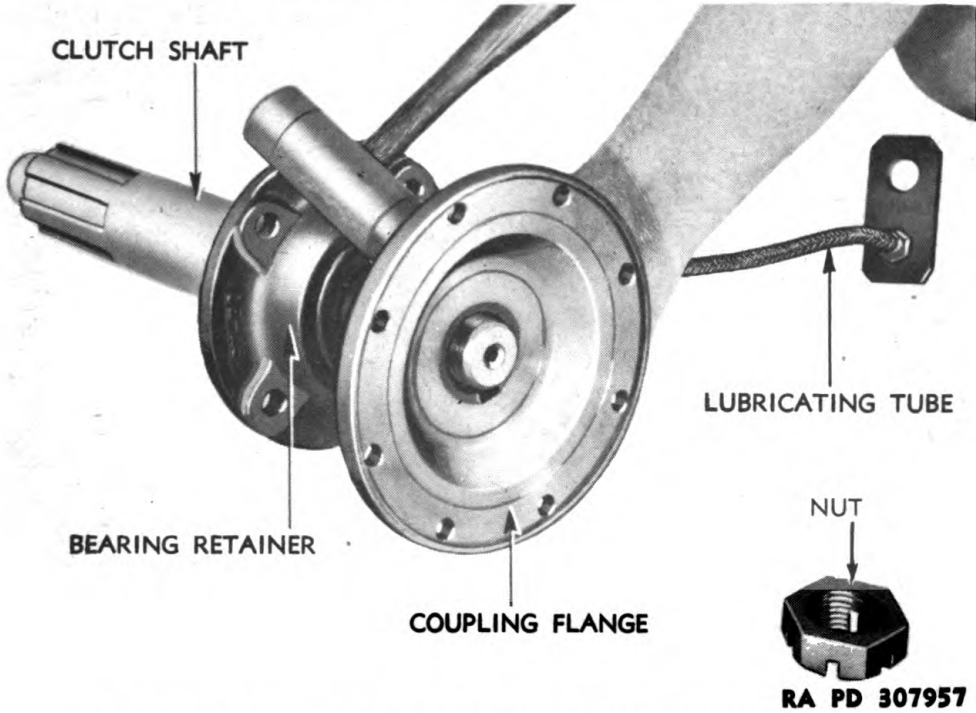
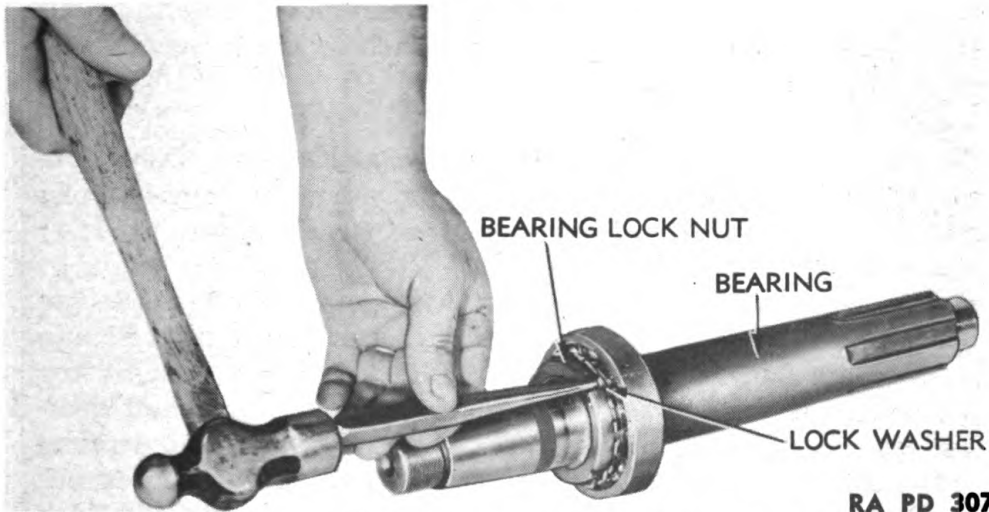

Figure 150 — Removing Universal Coupling Flange From Clutch Shaft
Figure 151 — Straightening Prong of Bearing Nut Lock Washer
(2) **DISASSEMBLE CLUTCH SHAFT ASSEMBLY.** Pull cotter pin from slotted nut on end of shaft and remove nut. Drive or press universal coupling flange from shaft (fig. 150). Remove straight key from slot in shaft. Remove lubricating tube from clutch shaft bearing retainer and tap bearing retainer off bearing. Straighten prong of lock washer in notch in bearing lock nut (fig. 151). Loosen nut with spanner wrench (41-W-3250-10) and remove nut and lock washer. Press shaft out of bearing and press oil seal from bearing retainer.
(2) **ASSEMBLE CLUTCH SHAFT ASSEMBLY.** Lubricate bearing with light engine oil, then press bearing onto tapered end of clutch shaft and against shoulder on shaft. Place star lock washer on shaft next to bearing with prongs pointing away from bearing. Install and tighten bearing lock nut against bearing with spanner wrench (41-W-3250-10) and bend one or more prongs of lock washer into a slot in nut (fig. 151). Press oil seal into small end of clutch shaft bearing retainer with lip of seal facing in. Slide retainer onto shaft (use care not to damage or double lip of seal) and tap or press retainer over bearing. Screw pipe elbow (if removed) into tapped hole in retainer, then screw end of flexible lubricating tube into elbow. Tap straight key into slot in end of shaft, aline slot in coupling with key, and tap or press universal coupling flange onto end of shaft. Install and tighten slotted nut on end of shaft to draw flange tightly onto taper of shaft. Secure nut with cotter pin.